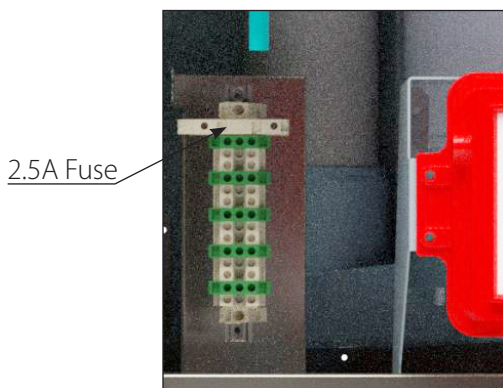

Fig. 25 - Terminal Strip Location
1. Connect the DHW aquastat or temperature sensor wires to low voltage terminals X4-1&2 located at the bottom of the CTRLMax control module as shown in **Fig. 25 on page 41**.
3. Connect the external limit wires to the Manual Reset Limit or Auto Reset Limit low voltage terminals located on the lower right corner of the CTRLMax control module housing as shown in *Fig. 25 on page 4149*.
1. Connect the system temperature sensor wires to low voltage terminals X5-3&4 located at the bottom of the CTRLMax control module as shown in *Fig. 25 on page 41*.